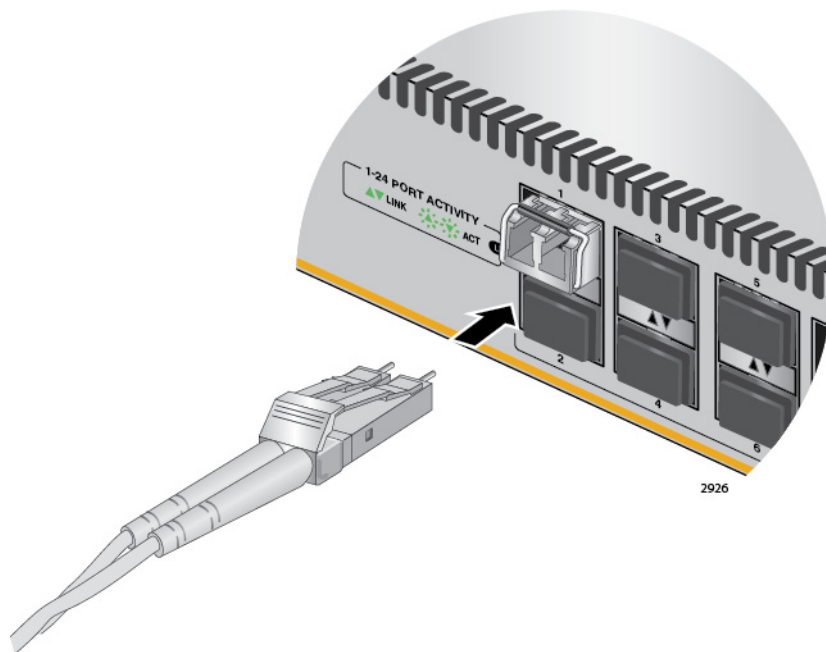

Figure 26. Connecting a Fiber Optic Cable to an SFP Transceiver
7. Connect the fiber optic cable to the transceiver, as shown in Figure 26. The connector on the cable should fit snugly into the port, and the tab should lock the connector into place.